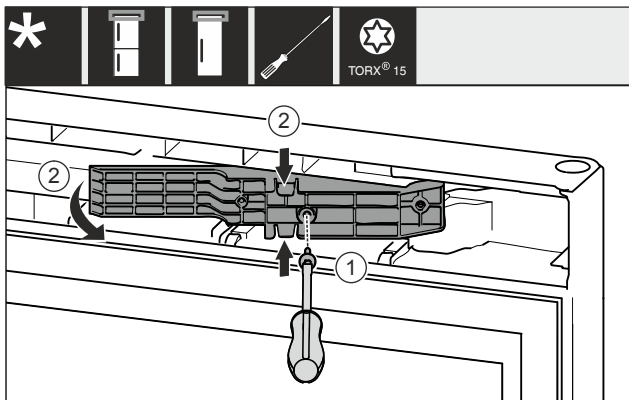

Fig. 10 \*
- ▶ Loosen the screws with a T15 screwdriver. Fig. 10 (1)\*
- ▶ Pull out the adaptor. Fig. 10 (2)\*